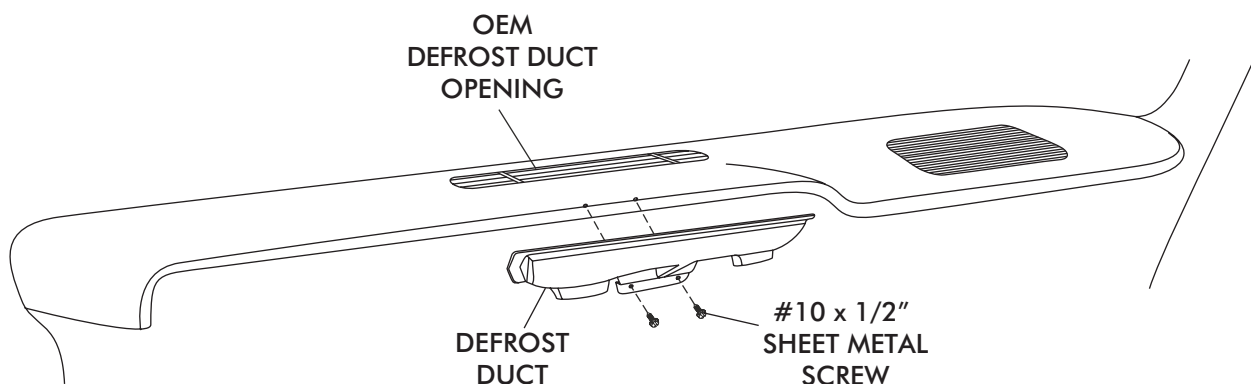

FIGURE 4
- INSTALL DEFROST DUCTS UNDER DASH AND ALIGN WITH OEM OPENING. INSTALL THE DRIVER/PASSENGER SIDE DEFROST DUCT TO COWL USING #10 x 1/2" SHEET METAL SCREWS. **NOTE: APPLY SILICONE ON SCREWS TO ENSURE LEAK FREE INSTALLATION. SEE FIGURE 4 BELOW.**